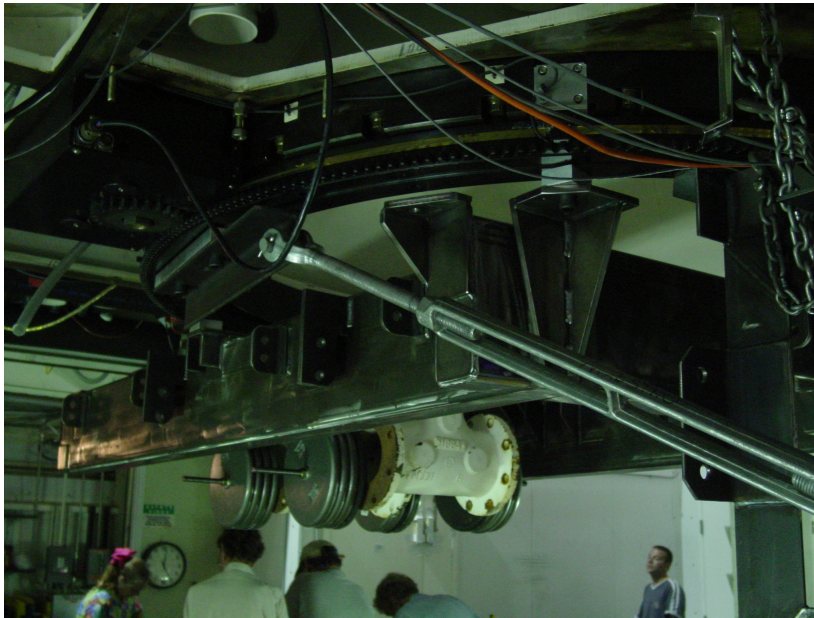

Figure 10
22. Bolt the instrument to the derotator ring. See Figure 10.